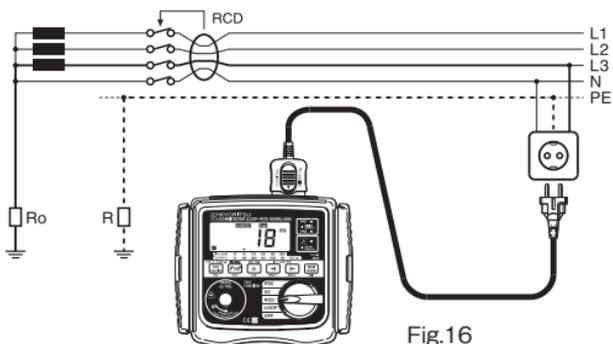

Fig.16
- (2) Connect test lead to object to be tested. (Fig.16,17)
- (3) Make sure that the P-E and P-N wiring Check LEDs are lit and the wiring in correct LED is not lit. If it is not correct, disconnect the tester and check the wiring for a possible fault.
In fig.16, when grounding is incomplete and R exists, voltage occurs to R if fault current flows in R. Person may touch this voltage, and the voltage occurs to a person at this bout is called as  $U_c$ . At  $U_c$  test, the value, when  $U_c$  reaches maximum, is calculated.
- (2) Connect test lead to object to be tested.(Fig.16,17)